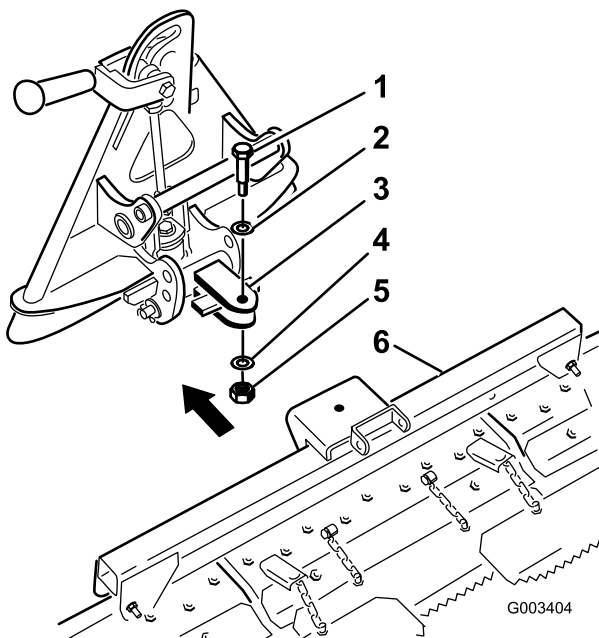

Figure 3
1. Secure the pivot assembly to the tooth rake with a shoulder bolt, washer (.531 x 1.063), washer (.469 x .922) and locknut (7/16 inch) as shown in Figure 3.